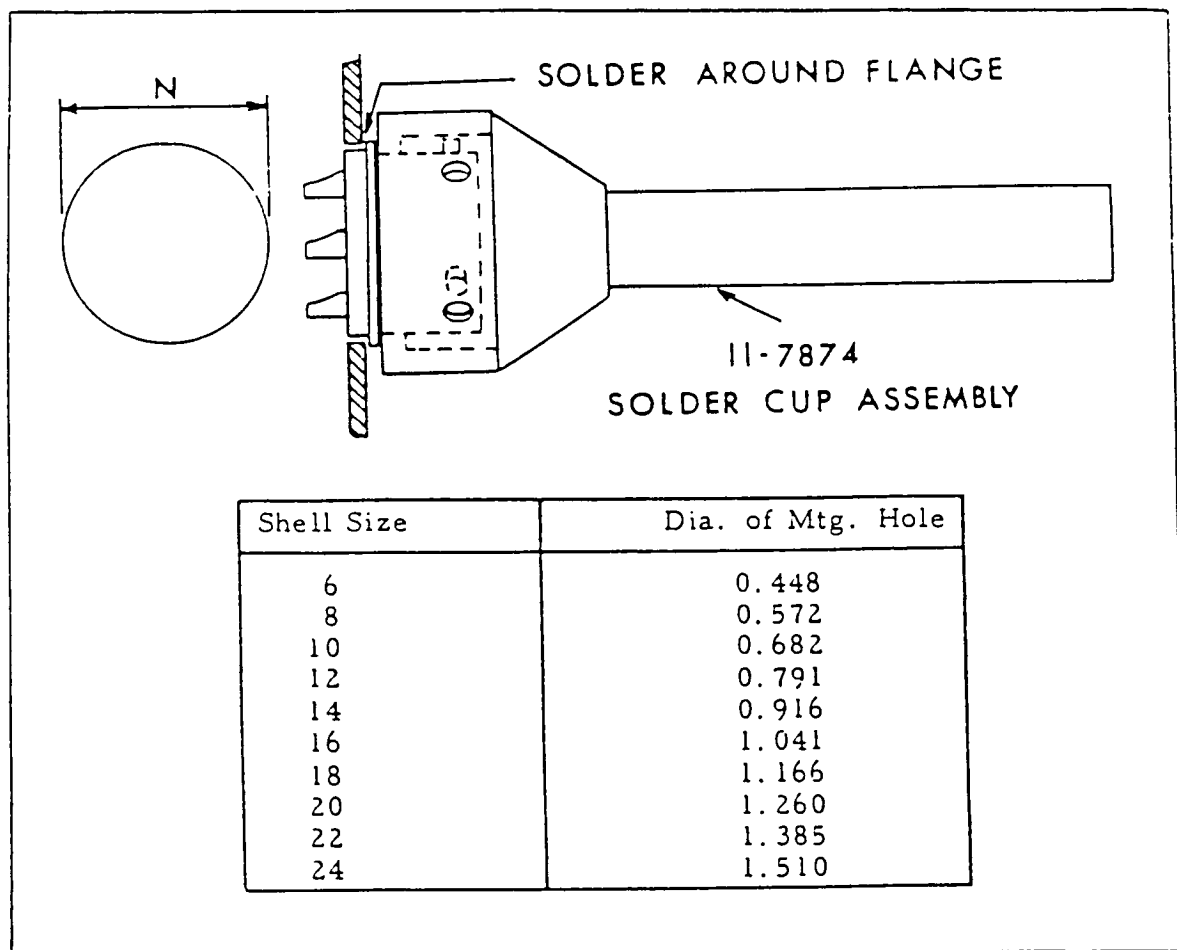

Figure 5
- 4-7. Applications that do not lend themselves to the oven or oil bath methods may be soldered by a soldering cup. (Soldering cups may be manufactured for applicable shell sizes in accordance with figure 5.)